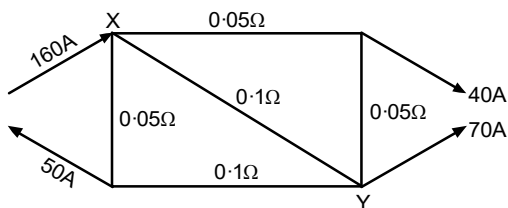

Fig.1.57: Given circuit
- By using Kirchhoff's laws find the current in *XY* in the circuit shown in fig.1.57. (Ans. 40 A)